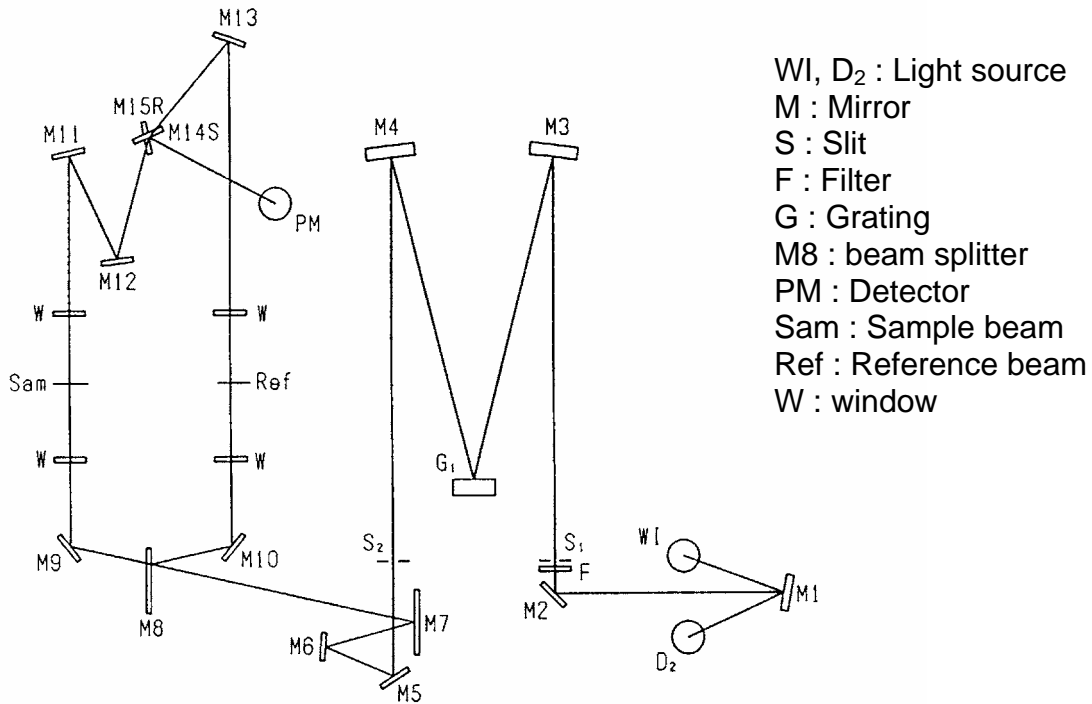

Fig 2.3 V-550 Optical system
Figures 2.3 through 2.5 show the optical systems of the V-550, V-560 and V-570 spectrophotometers, respectively. The V-550 and V-560 measure the absorption spectrum of a sample at wavelengths in the range 190 to 900 nm and the V-570 measures the absorption spectrum of a sample at wavelengths in the range 190 to 2500 nm. In each model, the light sources used are a deuterium (D_2) lamp (190 to 350 nm) for use in the ultraviolet region and Halogen (WI) lamp (340 to 2500 nm) for use in the VIS/NIR region. The light from the light source is converged and enters the monochromator. It is dispersed by the grating in the monochromator and the light passing through the exit slit is monochromated. This light is split into two light paths by a sector mirror, one incident on the sample to be measured and the other on the reference sample such as a solvent. The light that has passed through the sample and reference sample is incident on the photomultiplier tube or Pbs photoconductive cell.